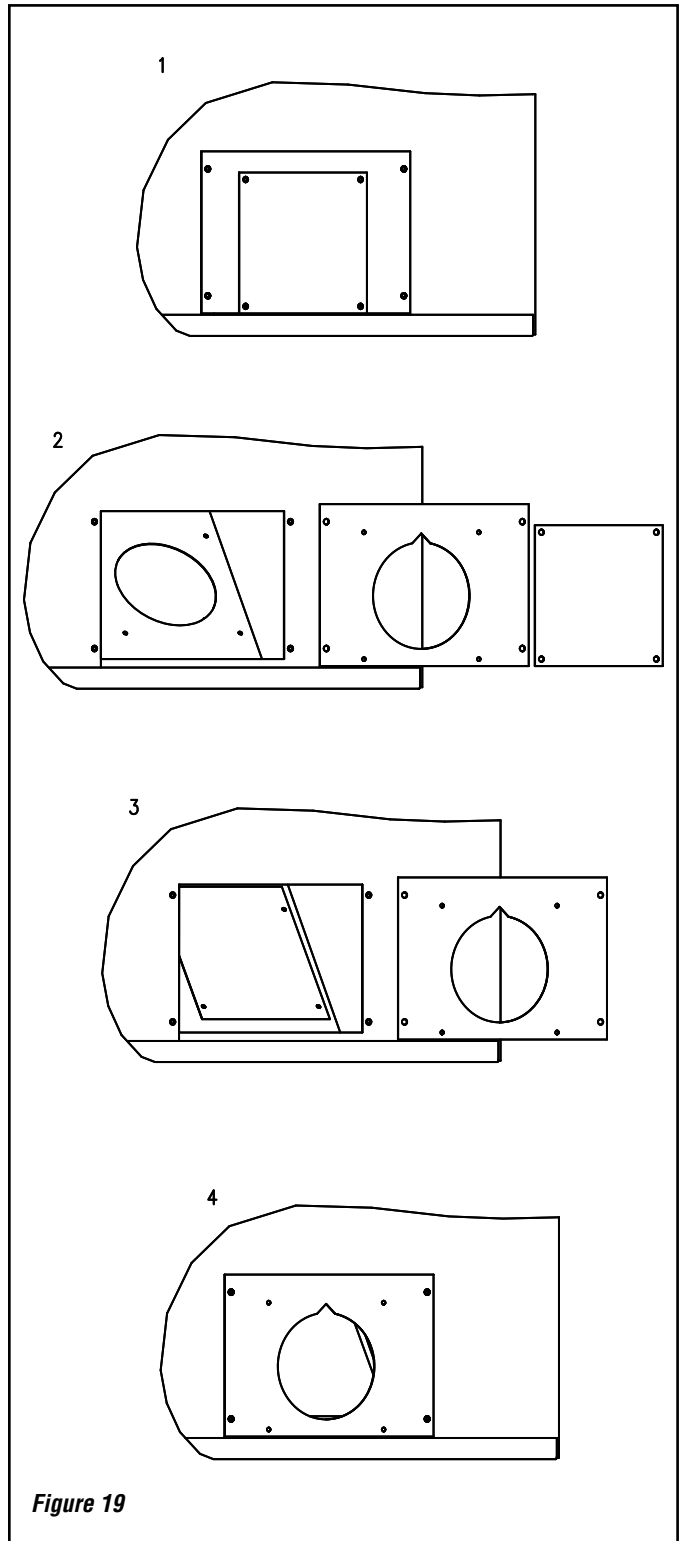

Figure 19
1. Remove the obstruction plate and the access plate (both are super-impose) located on the bottom of the left side (*Figure 19, part 2*).
2. Screw the obstruction plate inside the primary air box using only two screws on the bottom (*Figure 19, part 3*).
3. Reinstall the access plate exposing the 5 inch diameter hole topped by a triangle (*Figure 19, part 4*).